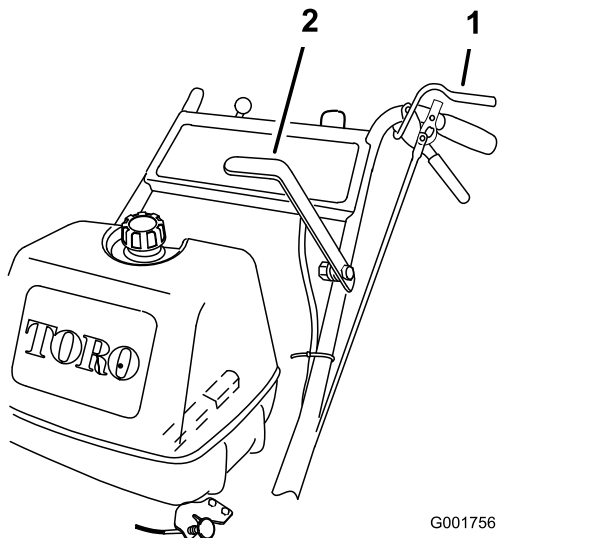

Figure 7
1. Squeeze the operator-presence control levers against the handles (Figure 7).
2. Push the blade-control (PTO) lever firmly forward until it latches over the center (Figure 7).
Pull the blade-control lever (PTO) fully rearward (Figure 7).